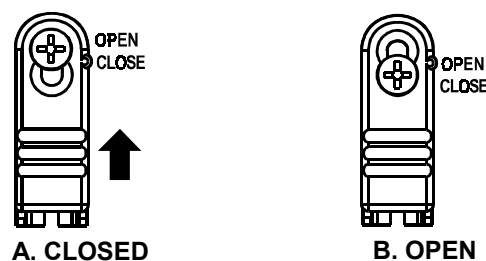

Figure 31. Unlocking the Bracket
- You will probably find the bracket locking device in the **closed** position (see Figure 31, part A).
- Insert the bracket release key, supplied with the PowerArt™ kit, as far as it will go into the hole at the bottom of the unit (see Figure 31). This action frees the catch from the trap.